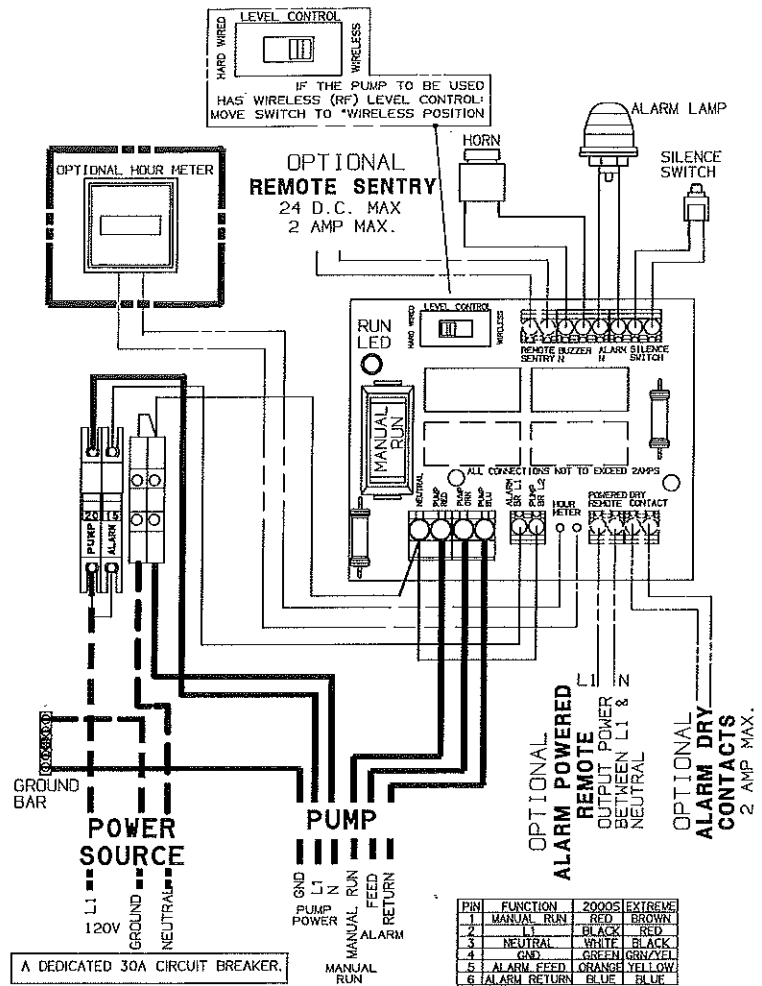

Figure 3 – 120V Simplex
Wiring of supply panel and alarm panel shall be per figures 3 and 4, alarm panel wiring diagrams and local codes.
e. Run the cable underground, in a trench or tunnel, to the location of the E/One panel. Leave a 6- to 12-inch loop of cable at each end to allow for shifting and settling. Connections made at the panel are shown in the panel wiring diagram (Figs. 3 and 4).